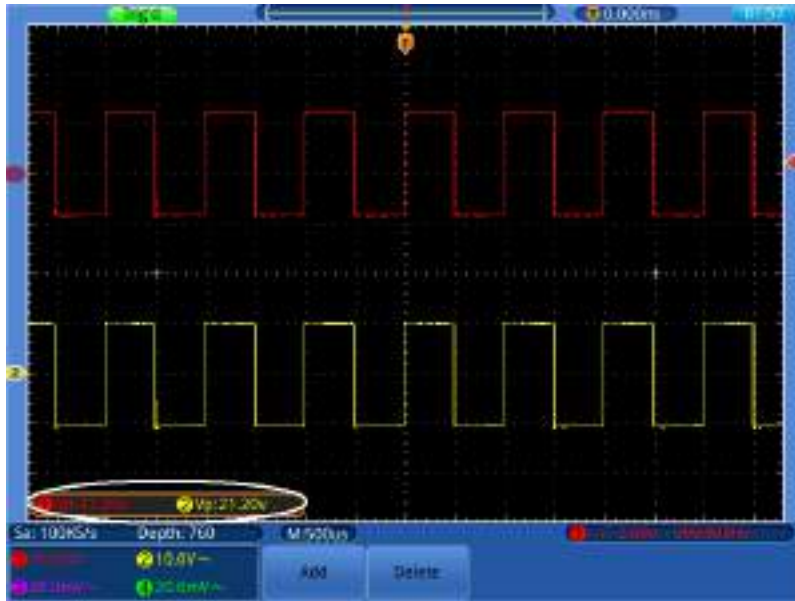

Figure 7-2 Waveform of Gain Measurement
- (1) Press the **Autoset** button and the oscilloscope will automatically adjust the waveforms of the two channels into the proper display state.
- (2) Press the **Measure** button.
- (3) Select **Add** in the bottom menu.
- (4) Select **Source** in the right menu; select ① in the left menu.
- (5) Select **Type** in the right menu; select **PK-PK** in the left menu.
- (6) Select **Add** in the right menu.
- (7) Select **Source** in the right menu; select ② in the left menu.
- (8) Select **Add** in the right menu.
- (9) Read V_p of Channel 1 and Channel 2 from the measure window at the bottom left of the screen (see *Figure 7-2*).
- (10) Calculate the amplifier gain with the following formulas.